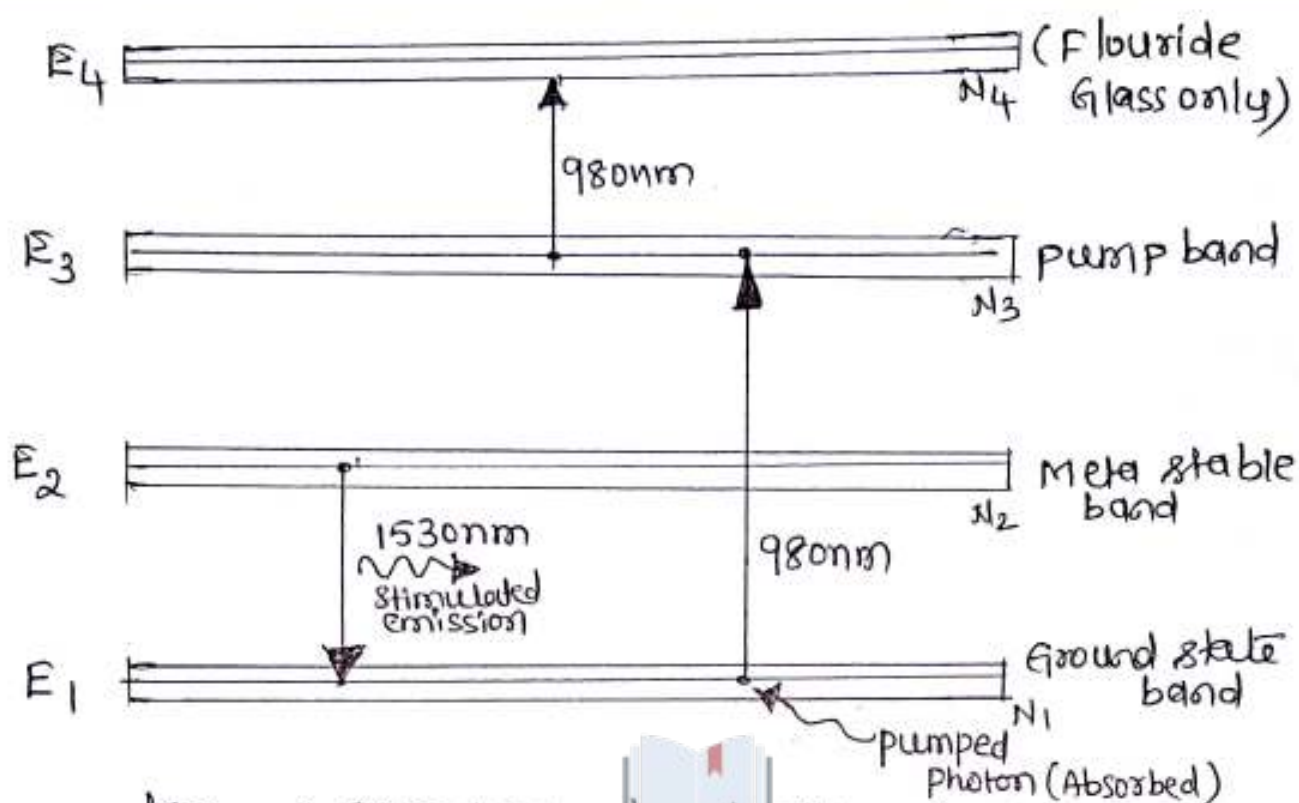

Figure 8.3: Erbium doped Fiber Amplifier:-
- The Energy levels of Erbium ions in silica fiber are shown in figure 8.3.